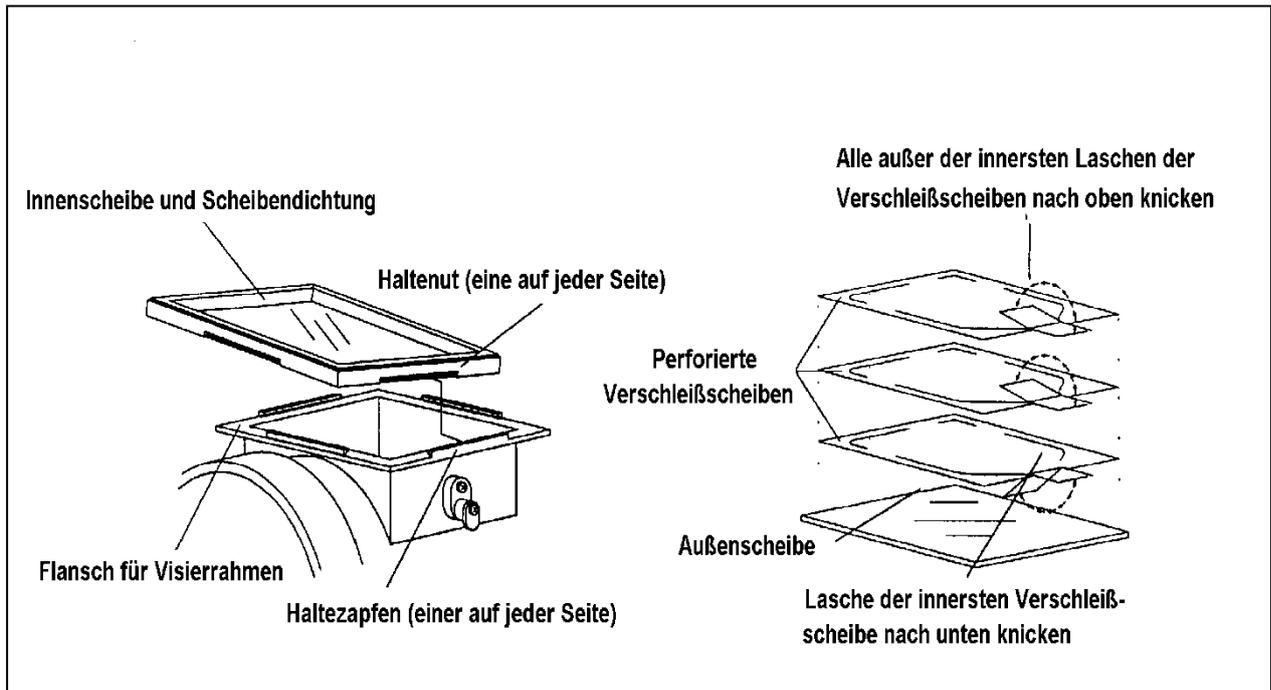

Figure 3: Replacing inner and cover lenses
(3) Fit new inner lens.	<ul style="list-style-type: none"><li>– Clean the lens gasket and fit a new inner lens.</li><li>– From the outside place the new lens gasket with inner lens on the opening.</li><li>– Place the lens gasket with inner lens on the flange and push a retaining slot over the respective holding tab (see figure 3).</li><li>– Working from both outside and inside, push the other retaining slots over the holding tabs.</li></ul>
(1) Working on a smooth surface, place up to three cover lenses on the outer lens.
(2) Fold the tabs on the top two cover lenses upwards and the tab on the bottom lens downwards (see figure 3).
(3) Open the lens frame and remove the outer lens and/or the remnants of the cover lenses.
(4) Place the cover lenses with the outer lens on the inner lens so that the cover lens tabs poke through the lens frame.
(5) Hold the lenses and close the lens frame.